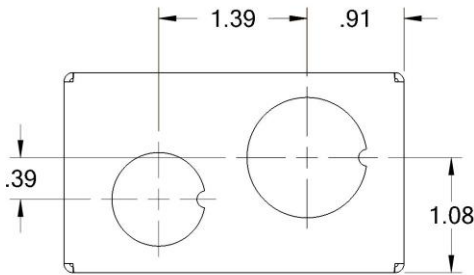
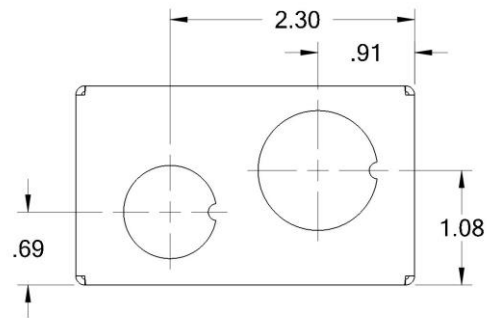

Figure 4a: Relative dimensioning
Figure 4b: Independent dimensioning
- 5) DON'T dimension to features that are not in line with one another unless necessary. For example, Figure 4a below shows the relative position of two knockout holes to one another. Being offset in both directions can make it difficult on the factory floor for the fabricator to check this. Considering that the relative position of two adjacent knockouts is rarely critical, a simpler dimensioning scheme is shown in Figure 4b below, where the position of both holes is independent and referenced from edge that are adjacent to both.